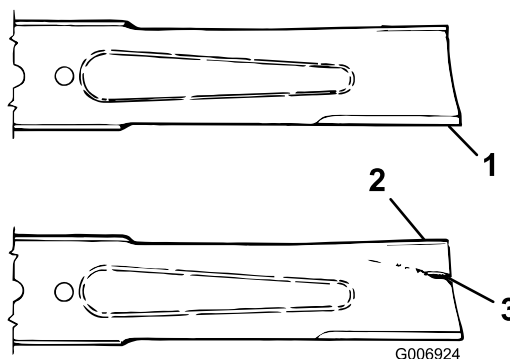

Figure 101
3. Examine the cutting ends of the blade carefully, especially where the flat and curved parts of the blade meet (Figure 101).
4. If wear is noticed (Figure 101), replace the blade; refer to Servicing the Blade Plane (page 69).
If the blade is allowed to wear, a slot will form between the sail and flat part of the blade (Figure 101). Eventually a piece of the blade may break off and be thrown from under the housing, possibly resulting in serious injury to yourself or bystanders.